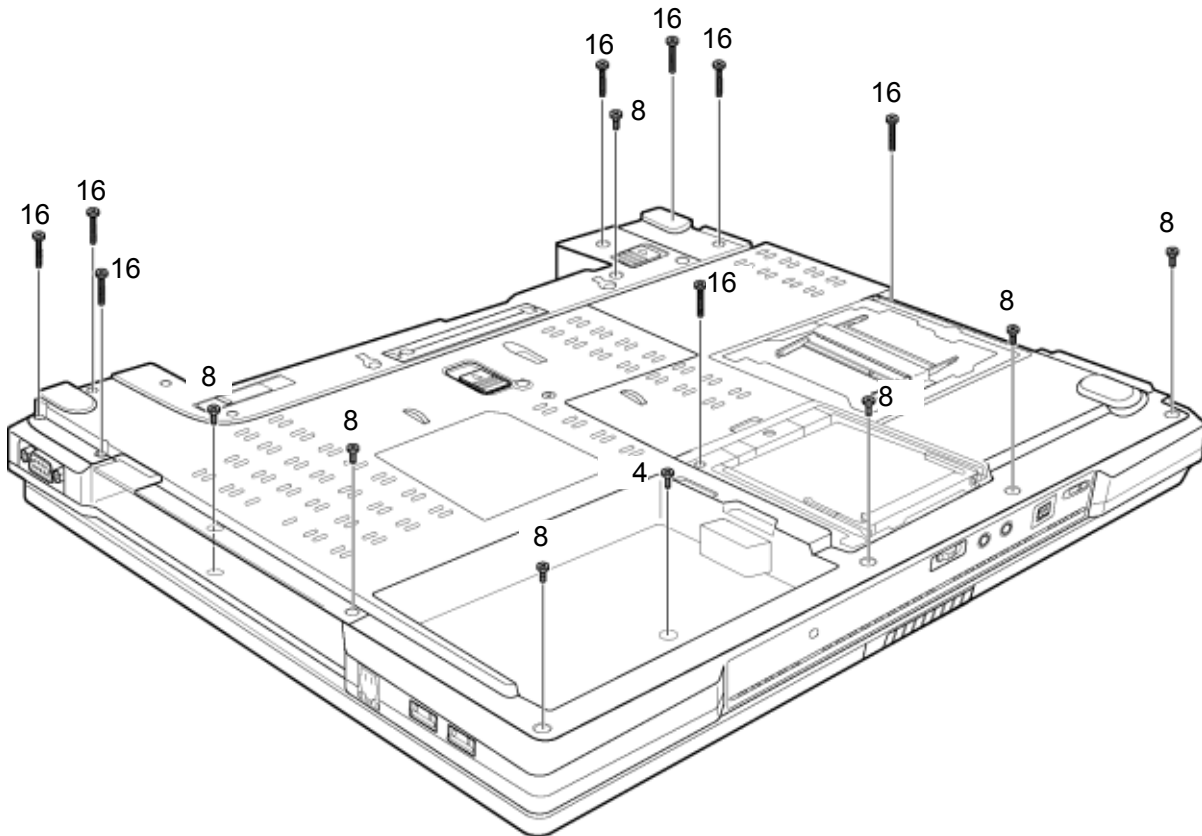

Figure 4-19 Removing the display assembly (2)
- M2.5×16B FLAT HEAD screw ×8 (“16” in the figure 4-19)
- M2.5×8B FLAT HEAD screw ×7 (“8” in the figure 4-19)
- M2.5×4B FLAT HEAD screw ×1 (“4” in the figure 4-19)